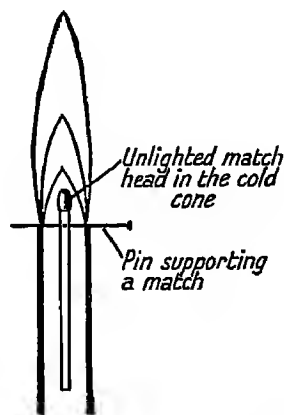

FIG. 109. An unlighted match in the cold region of a bunsen flame.
**Expt. 149.** Hold a piece of stick for about a quarter of a minute horizontally, low down in the flame. Where is it burnt? Where is it unburnt? In what region of the flame was the unburnt part? Put another stick higher up in the flame and compare the results with the first. Is there any unburnt part? Push a pin through a match close to the head, and balance the pin on the top of the tube of the burner (Fig. 109). Now light the bunsen. The match head will not take fire if the flame is steady. The dark inner region is not so hot as the other regions.